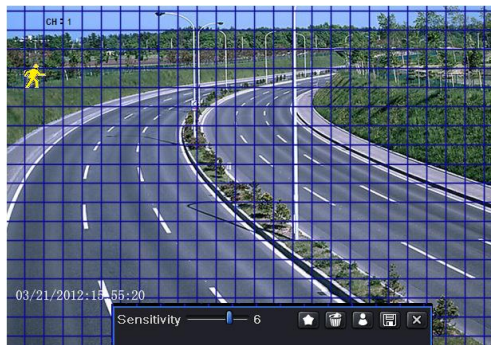

Fig 4-18 Motion-Area
Step 5: After clicking Area button, a dialog box will pop-up as Fig 4-18: